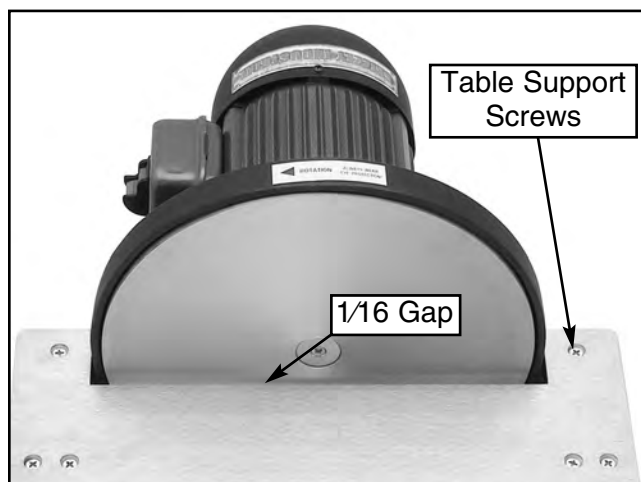

Figure 7. Table aligned with sanding disc.
2. Align the table so that there is a $\frac{1}{16}$ " gap between the 12" disc and the table (**Figure 7**).